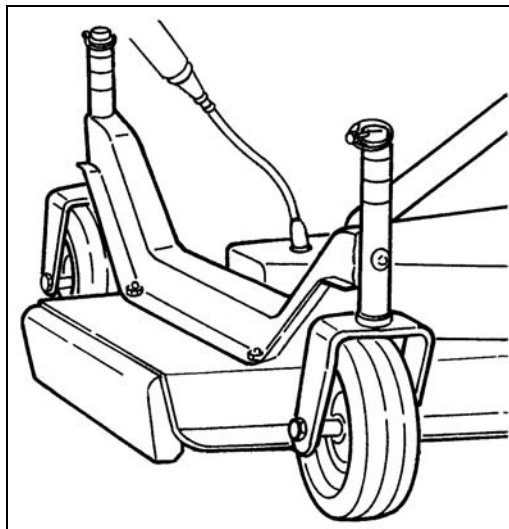

Fig. 10
1. Lubricate the three spindles with two or three shots of multipurpose grease (**see fig. 10**). The top grease fittings are easily accessible from the top of the deck by simply removing the plastic dust guards.